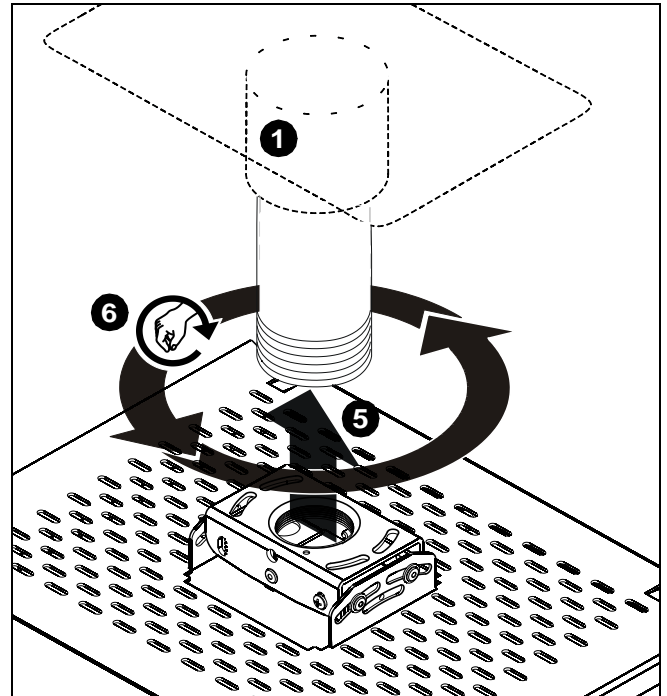

Figure 3
5. Align RPAA1 outer sleeve with end of NTP pipe. (See Figure 3)
6. Thread RPAA1 sleeve up onto pipe by turning counterclockwise until hand tight. (See Figure 3)